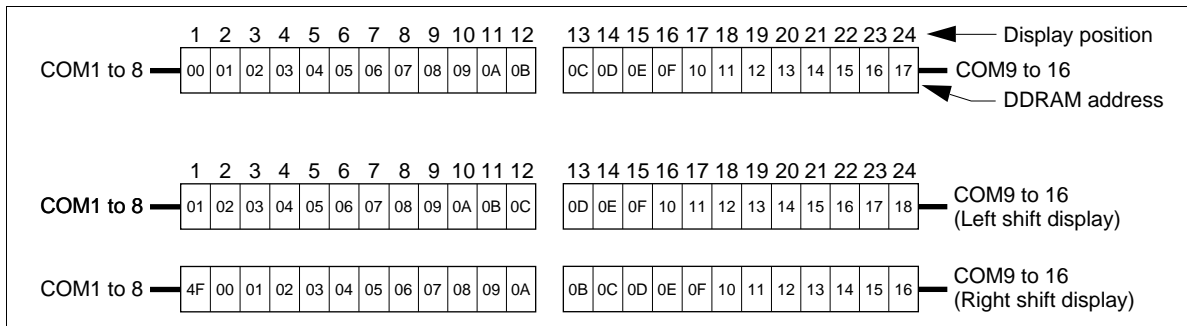

Figure 2 1-Line by 24-Character Display (5-Dot Font Width)
- Case 1: When there are fewer than 80 display characters, the display begins at the beginning of DDRAM. For example, when 24 5-dot font-width characters are displayed using one HD66712, the display is generated as shown in Figure 2.